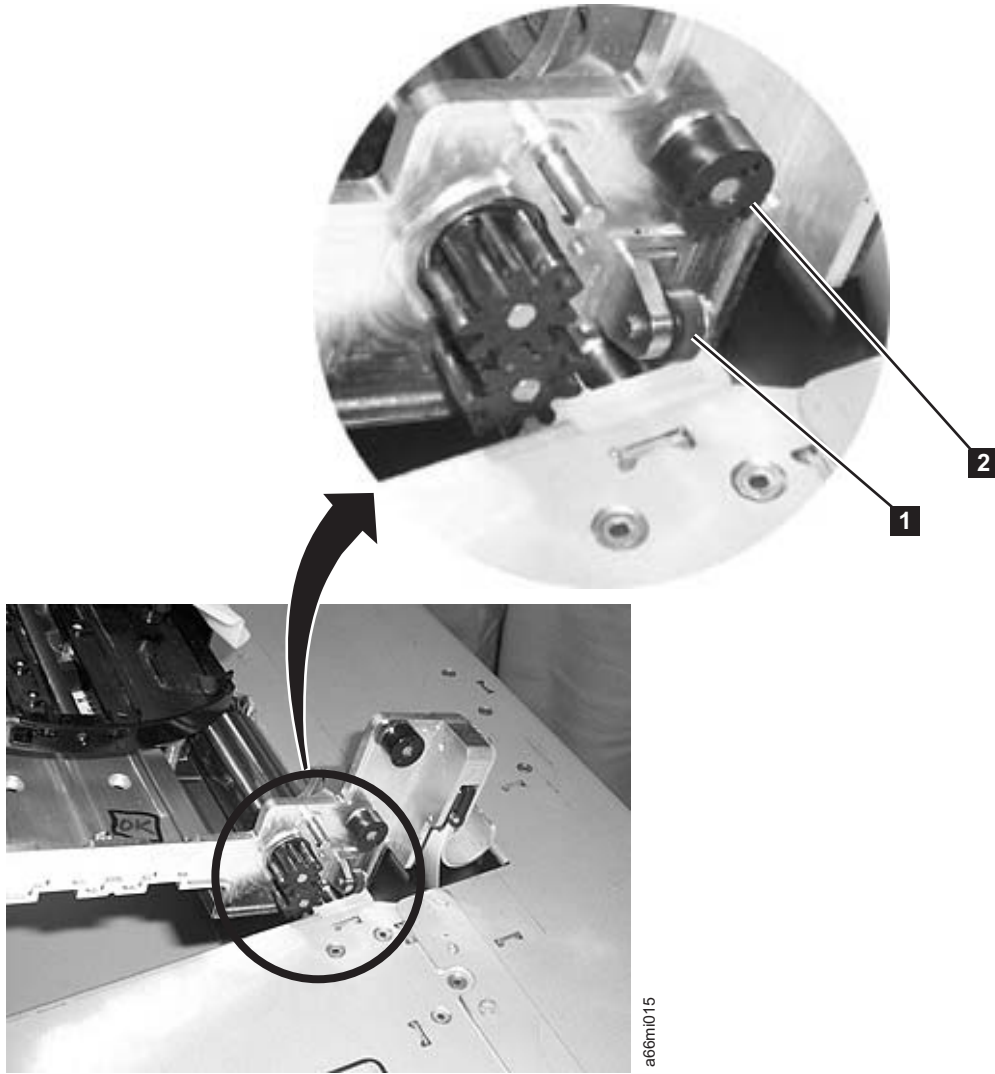
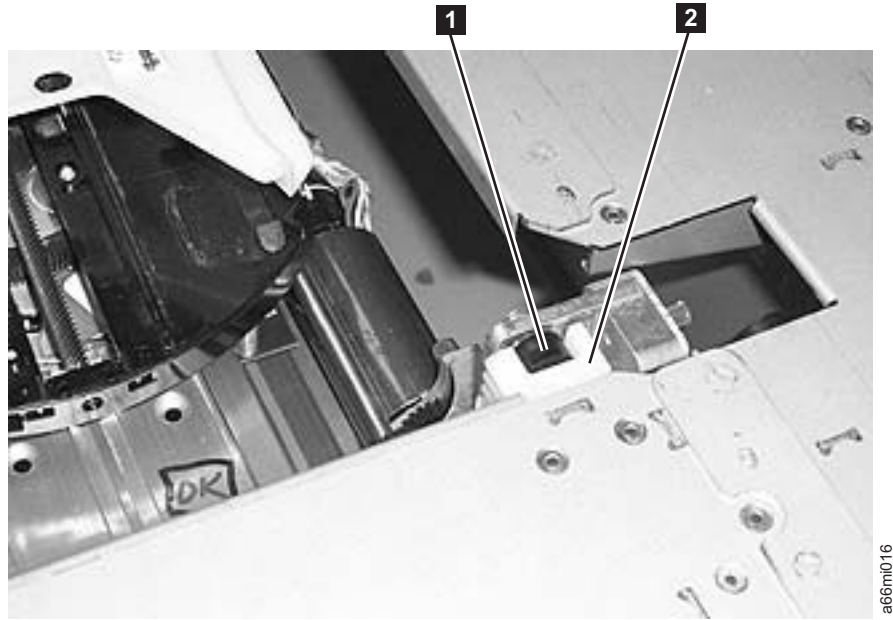

Figure 8-46. Guide rollers on Y-axis/Picker Assembly
Figure 8-47. Y-axis/Picker Assembly rollers inserted in gear rack track
6. Lower the Y-axis/Picker Assembly by tilting its gears at a 45° angle onto the top of the front and rear gear racks (see Figure 8-46 on page 8-50 and Figure 8-47 on page 8-51). BE VERY CAREFUL TO START BOTH Y-AXIS/PICKER ASSEMBLY GEARS TOGETHER TO ENSURE THE Y-AXIS/PICKER ASSEMBLY IS LEVEL. After lowering the Y-axis/Picker Assembly a few teeth, verify that the Y-axis/Picker Assembly is level with the library chassis. If it is not level, remove the Y-axis/Picker Assembly and reinsert.